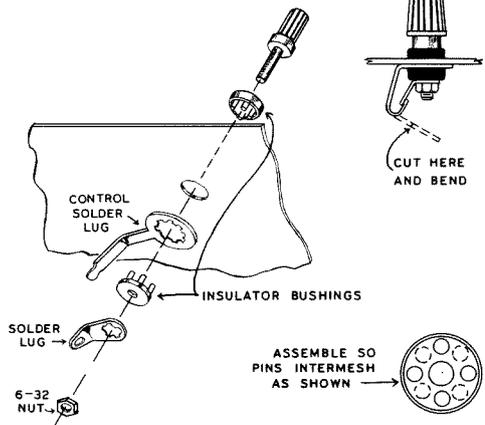

Figure 6
- (✓) Install the binding posts. Use binding post base, insulator bushings, solder lug and 6-32 nut. See Figure 6. On the one nearest the edge of the panel, include a larger control solder lug between the bushing and the inside of the panel.